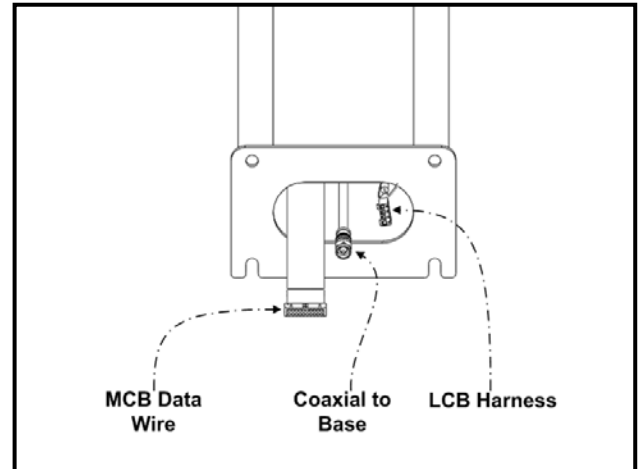

Fig. 7
7. Connect the cables extruding through the lower section of the neck mask into the corresponding locations on the lower base (Fig. 7).